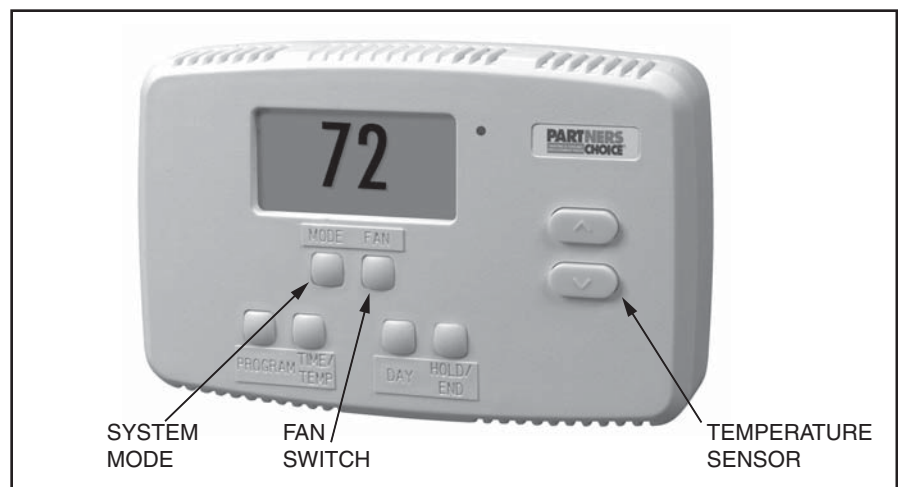

Figure 1. Typical Thermostat
1. Set the thermostat system switch to COOL and the thermostat fan switch to AUTO. (See Figure 1)
1. Set the thermostat system switch to HEAT and the thermostat fan switch to AUTO. (See Figure 1)
Continuously — Set the thermostat fan switch to ON (may be called CONT on some thermostat models). (See Figure 1) The indoor blower will start immediately, and will run continually until the fan switch is reset to AUTO. The continuous indoor blower operation can be obtained with the thermostat system switch set in any position, including OFF. The continuous indoor blower operation is typically used to circulate the indoor air to equalize a temperature unbalance due to a solar load, cooking, or fireplace operation
System Shutdown— Set the thermostat system switch to OFF and the thermostat fan switch to AUTO. (See Figure 1) The system will not operate, regardless of the thermostat temperature selector(s) setting.
To Operate the Indoor Blower Continuously — Set the thermostat fan switch to ON (may be called CONT on some thermostat models). (See Figure 1)